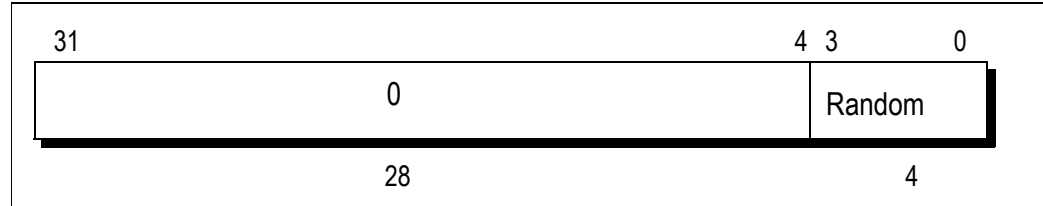
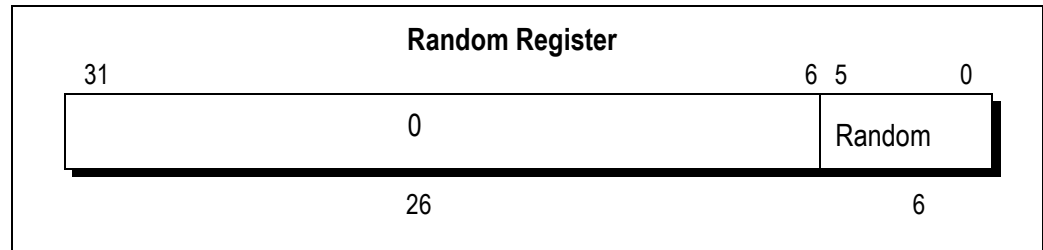

Figure 6.5 Random Register in RC32364
Figure 6.6 Random Register in RC4600/RC4700/RC5000
Most systems never have to read or write the *Random* register, shown in Figure 6.5, in normal use; but it may be useful for diagnostics. The hardware initializes the *Random* field to its maximum value (63) on reset, and it decrements every clock period until it reaches 8, when it wraps back to 63 and starts again.
Figure 6.5 and Figure 6.6 show the format of the *Random* register; Table 6.4 describes the *Random* register fields.